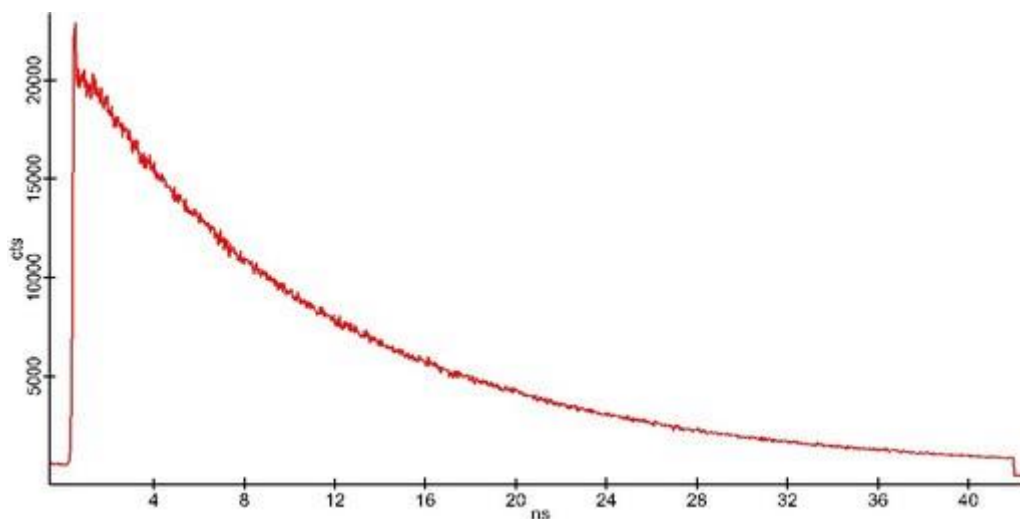

Figure 2: Corrected Time spectrum
5. If a single spectrum is recorded again, all anomalies should be removed (as in the spectrum in Figure 2).